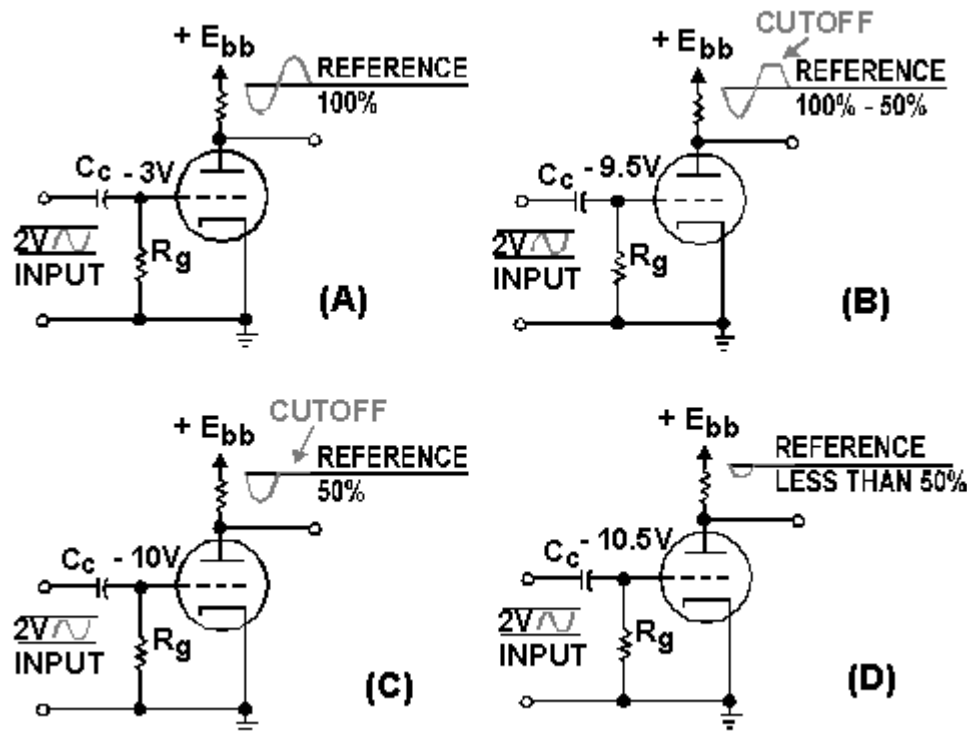

Figure 1-27.—Classes of amplifier operation.
An amplifier biased into Class A operation, is one in which conduction through the tube occurs throughout the duration of the input signal. Such an amplifier is shown in figure 1-27, view A. This is the same type of circuit with which you are already familiar. Notice when you compare the input to the output that the tube is always conducting, and that the entire input signal is reproduced at the output.
View B of figure 1-27 depicts an amplifier biased into **CLASS AB** operation. Notice that in this application, grid bias has been increased to -9 volts. We will assume that the tube reaches cutoff when the voltage on the grid is -10 volts. Under these conditions, when the input reaches -10 volts, the tube will cut off and stay cut off until the input goes above -10 volts. The tube conducts during the entire duration of the positive alternation and part of the negative alternation. If you remember back in the discussion of distortion, we pointed out that this represents distortion. In some amplifiers, faithful reproduction of the input is not an important requirement. Class AB amplifiers are used only where this distortion can be tolerated.
A **CLASS B** biased amplifier is one in which the tube will conduct for only half of the input signal duration. This is done by simply biasing the amplifier at cutoff. View C of figure 1-27 depicts a class B biased amplifier.
**CLASS C** amplifiers are biased below cutoff, so that the tube will conduct for less than half of the input signal cycle duration. View D of figure 1-27 depicts a Class C amplifier. Notice that the tube is biased one-half volt below cutoff. The tube will only conduct on that part of the positive alternation that is above +.5 volts. Therefore, the tube conducts for less than one-half cycle of the input. Again, this class can be applied only where severe distortion can be tolerated.